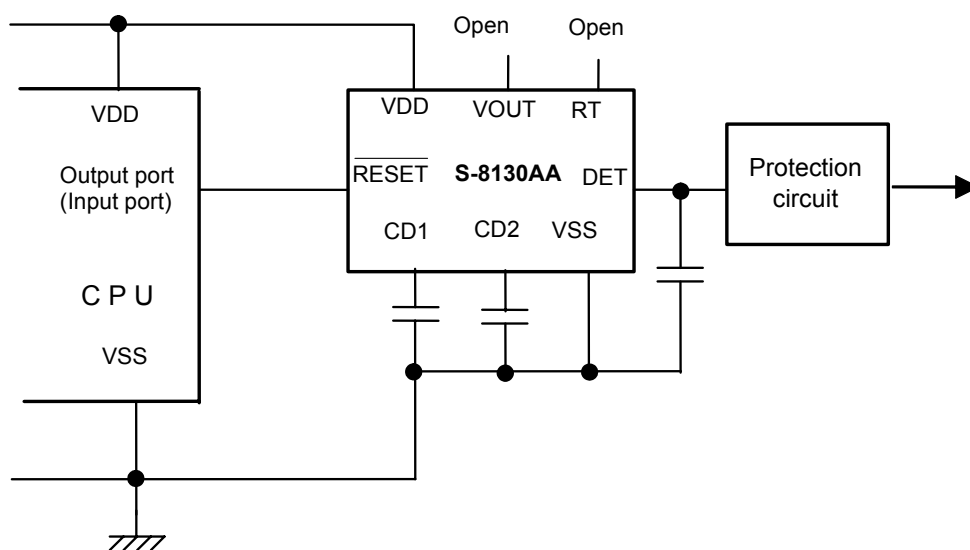

Figure 4
- (1) Since the S-8130AA has a voltage detector inside, control for the $\overline{\text{RESET}}$ pin is not necessary to activate the circuit as seen in **Figure 4**. In this case the $\overline{\text{RESET}}$ pin should be open.
- (2) A capacitor of around 1 μF should be connected to the DET pin to prevent malfunction caused by a noise due to the power on.
- (3) Nothing should be connected to the VOUT pin and the RT pin. These pins should be left open.
- (4) Do not apply an electrostatic discharge to this IC that exceeds the performance ratings of the built-in electrostatic protection circuit.